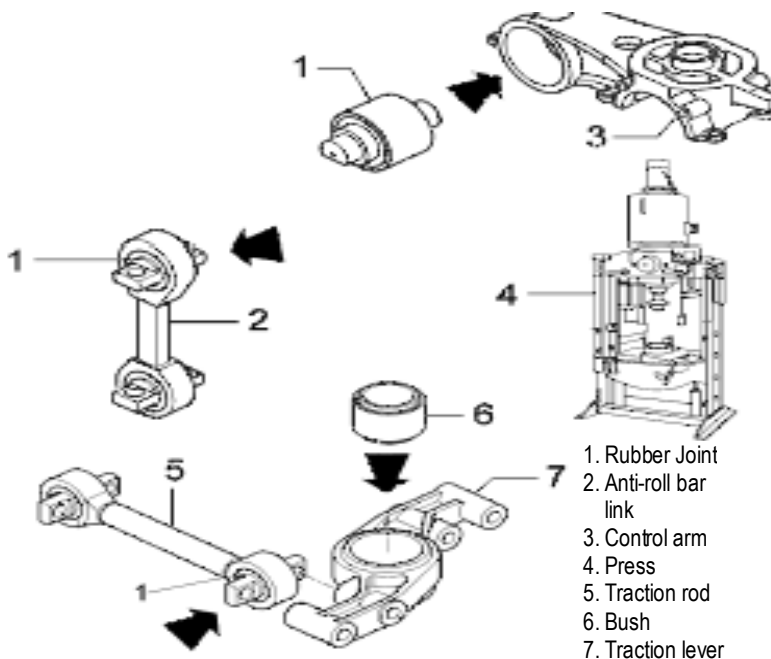

Fig. 3.23 Extraction Of The Rubber Joints
The rubber joints (Fig. 3.23) from the anti-roll bar links (2), from the control arm (3), from the traction rods (5) can be extracted using a press (4). In the same way, it is possible to extract the bush (6) from the traction lever (7).